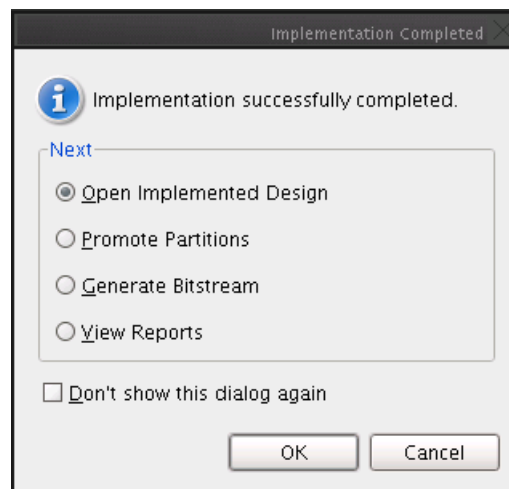

Figure 1-9: Implementation Completed Dialog Box
1. Once the implementation completes, the Implementation Completed dialog box appears, providing several choices (Figure 1-9).